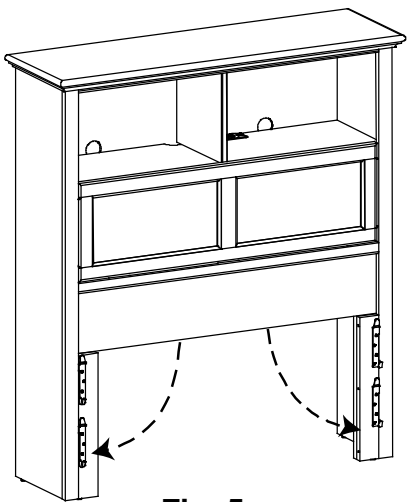

Fig. 5
4. Position the Headboard (Ed) against the frame and attach using six #14 x 1-1/4" Pan Head Screws (ZE) and six Washers (ZF).
5. Place your bed in its final position. To level the headboard, reach behind the bookcase front legs and, using a slotted screwdriver, find the Large Adjustable Glide (T). Using a slotted screw driver, rotate the Large Adjustable Glides (T) clockwise until they bear weight. See Figures 5, 5a and 5b.